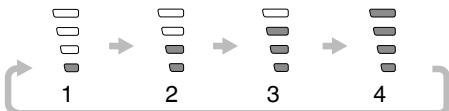

Fig. 20
(1) High / Low mode selector switch (Fig. 20)